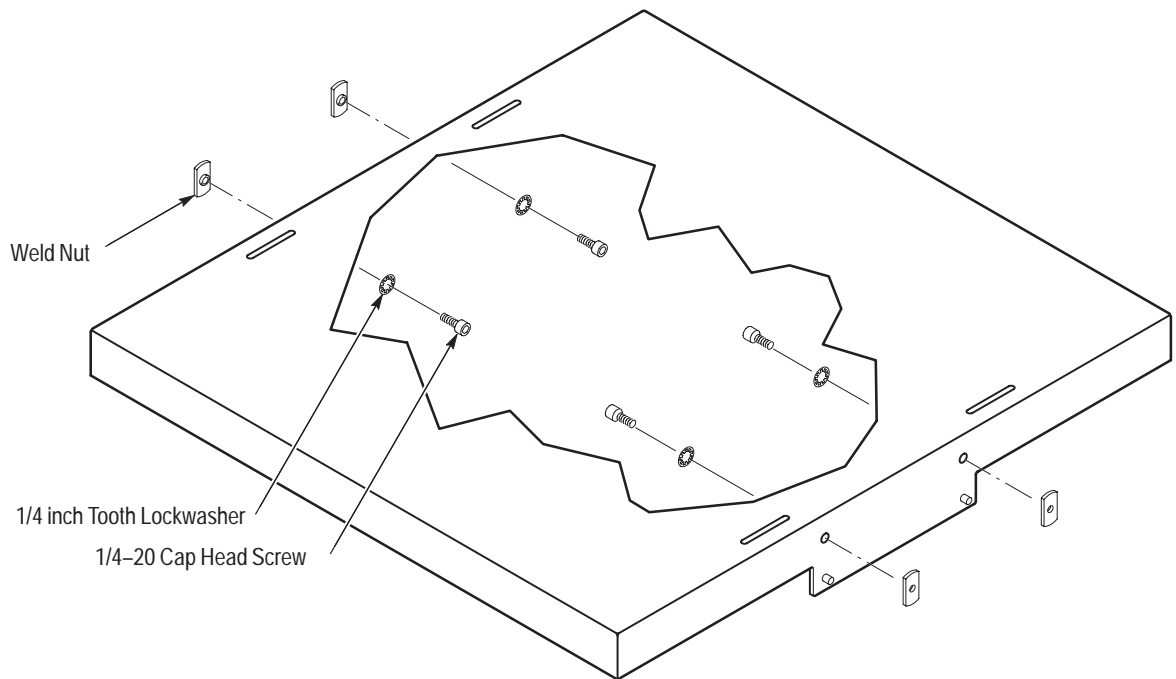

Figure 10: Preparing the Straight Shelf
1. Prepare the straight shelf as shown in Figure 10 by installing a cap head screw, a tooth lockwasher, and a weld nut in each of the four side holes of the shelf. Leave each screw assembly loose; do not screw the weld nut onto the cap head screw more than one full turn.